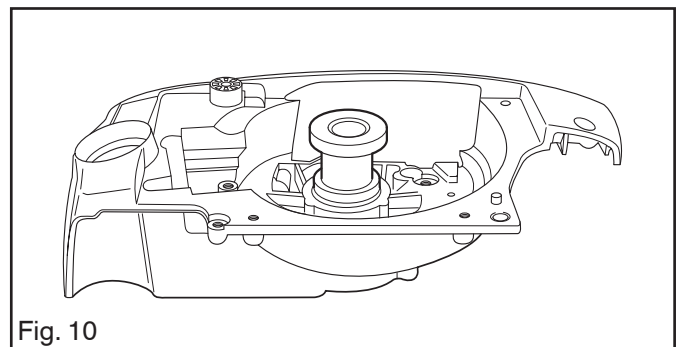

Fig. 10
2. When fitting new seals the sealing surfaces should be greased in. When fitting the seal on the flywheels side use tool (Refer to pos. 20 "3 Service tools" on page 8). The seal on the clutch side is fitted in the ball bearing. See fig. 10. The seals can also be fitted when the crankshaft is in place.